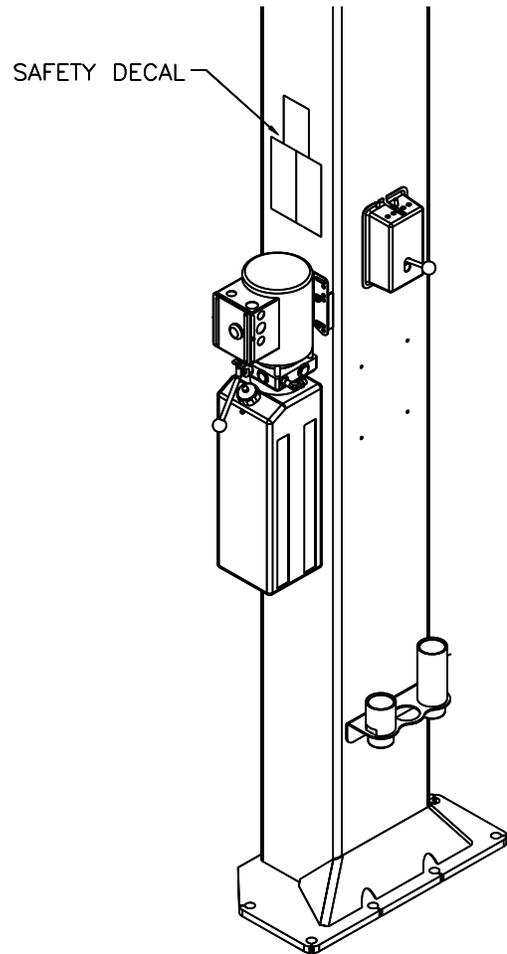

Fig. 23-Safety Decal Placement
63) Clean surface of the rear column above the power unit and install Safety Decals, **Page 3** and **Fig. 23**.